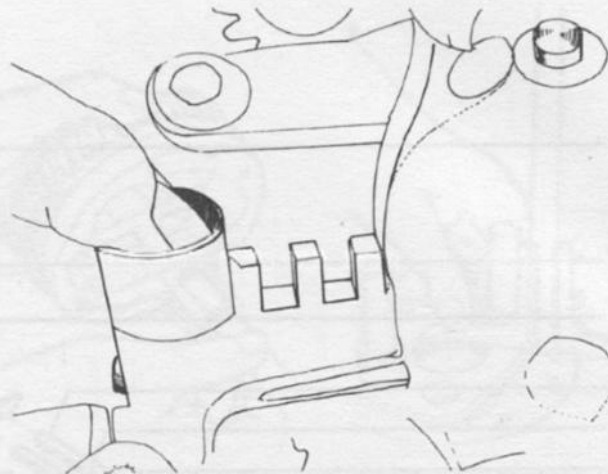

FIG 6:34 Selector and gate clearance measurement
- 1 Refer to FIG 6:31 and measure the distance between the surface of the left cover and the face of the bushing using a depth gauge.
- 4 Measure the distance between the face of the bushing and the surface of the right cover as shown in FIG 6:29.
- 1 Refer to FIG 6:33 and undo the locking screw from the selector gate fitting. Lift away the spring and plunger.